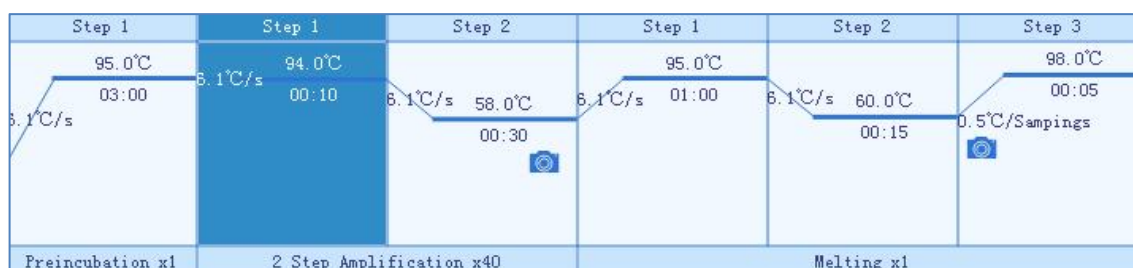

Figure E-3.1. Temperature Setting Sub-tab - Example Temperature Program
6. **Temperature program area:** after stage or step setting, the temperature program area will display the current temperature program, as shown in figure E-3.1. The parameter descriptions are same with those introduced in *D-3.3.1 Run Setting – Introduction to Temperature Program Area*.